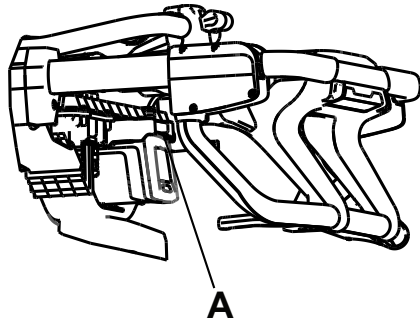

Figure 39 – Battery release button
1. Press the battery release button (A) to release the battery from the product (Figure 39).